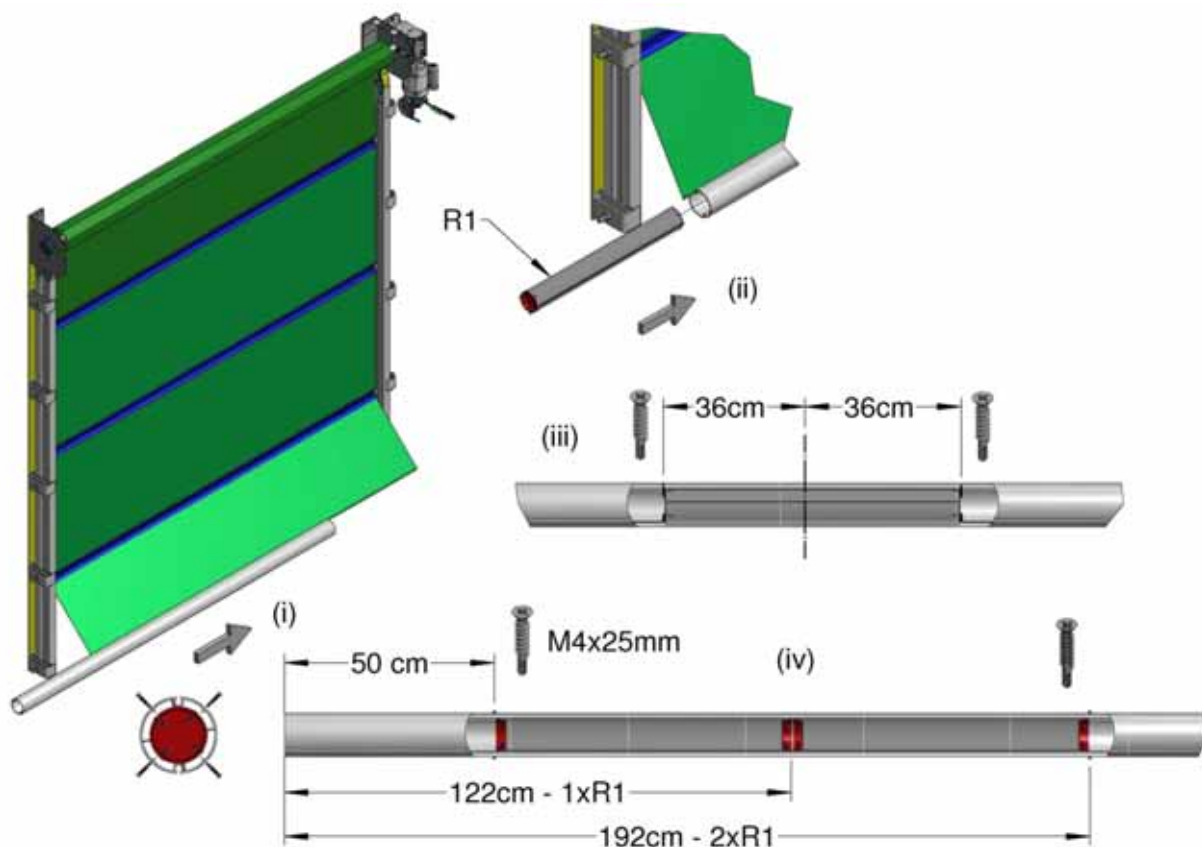

Figure 21, Bottom Tube and Weights
23. Slide the bottom tube onto the bottom panel Figure 21(i).
If the door is supplied with an odd number of tube weights (R1) then insert one weight to the centre of the tube and secure with M4x25 countersunk screws each end of the weight as shown in Figure 21(iii).
At each end insert the weights as shown and secure, Figure 21(iv).